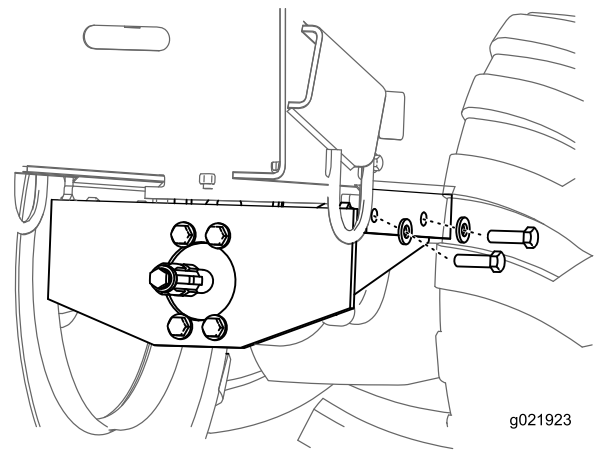

Figure 5
9. Secure the motor assembly to the machine using 4 bolts (1/2 x 1-3/4 inch), 4 flat washers (1/2 inch), and 4 locknuts (1/2 inch) (Figure 5).